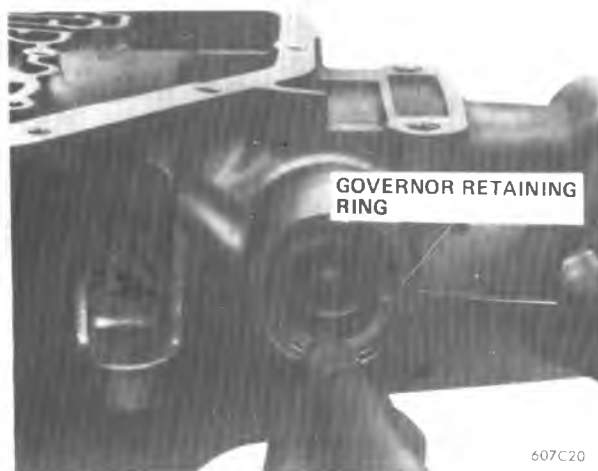

Figure 7A1-23 Removing Governor Cover Retaining Ring
c. Install dial indicator J-8001 and position dial indicator point (Figure 7A1-27) on top of J-25014-2 zero post and set dial indicator to zero.